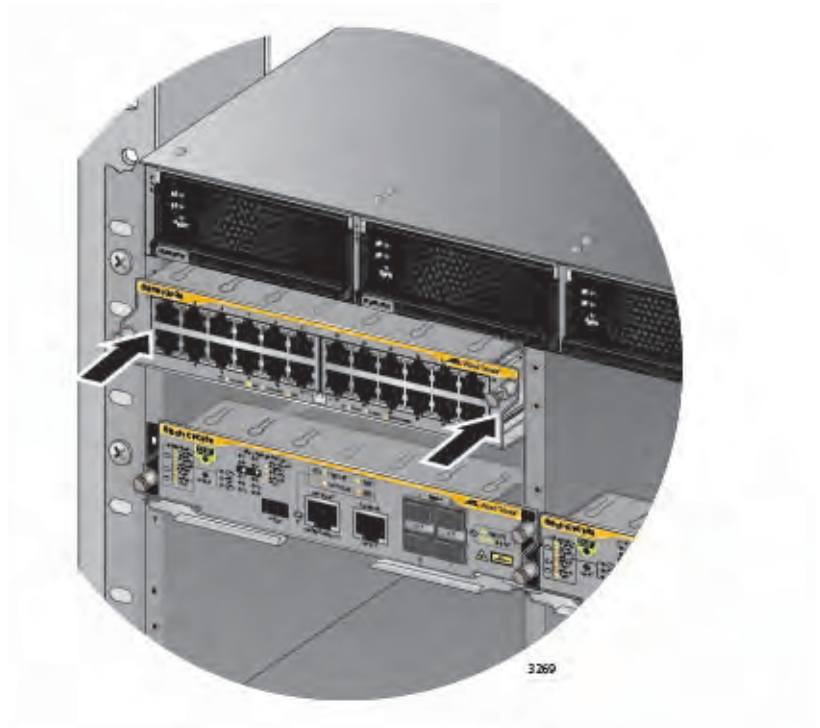

Figure 94. Seating an Ethernet Line Card on the Backplane Connector
7. When you feel the line card make contact with the connector on the backplane of the chassis, gently press on both sides of the faceplate to seat the card on the connector. Refer to Figure 94 on page 165.